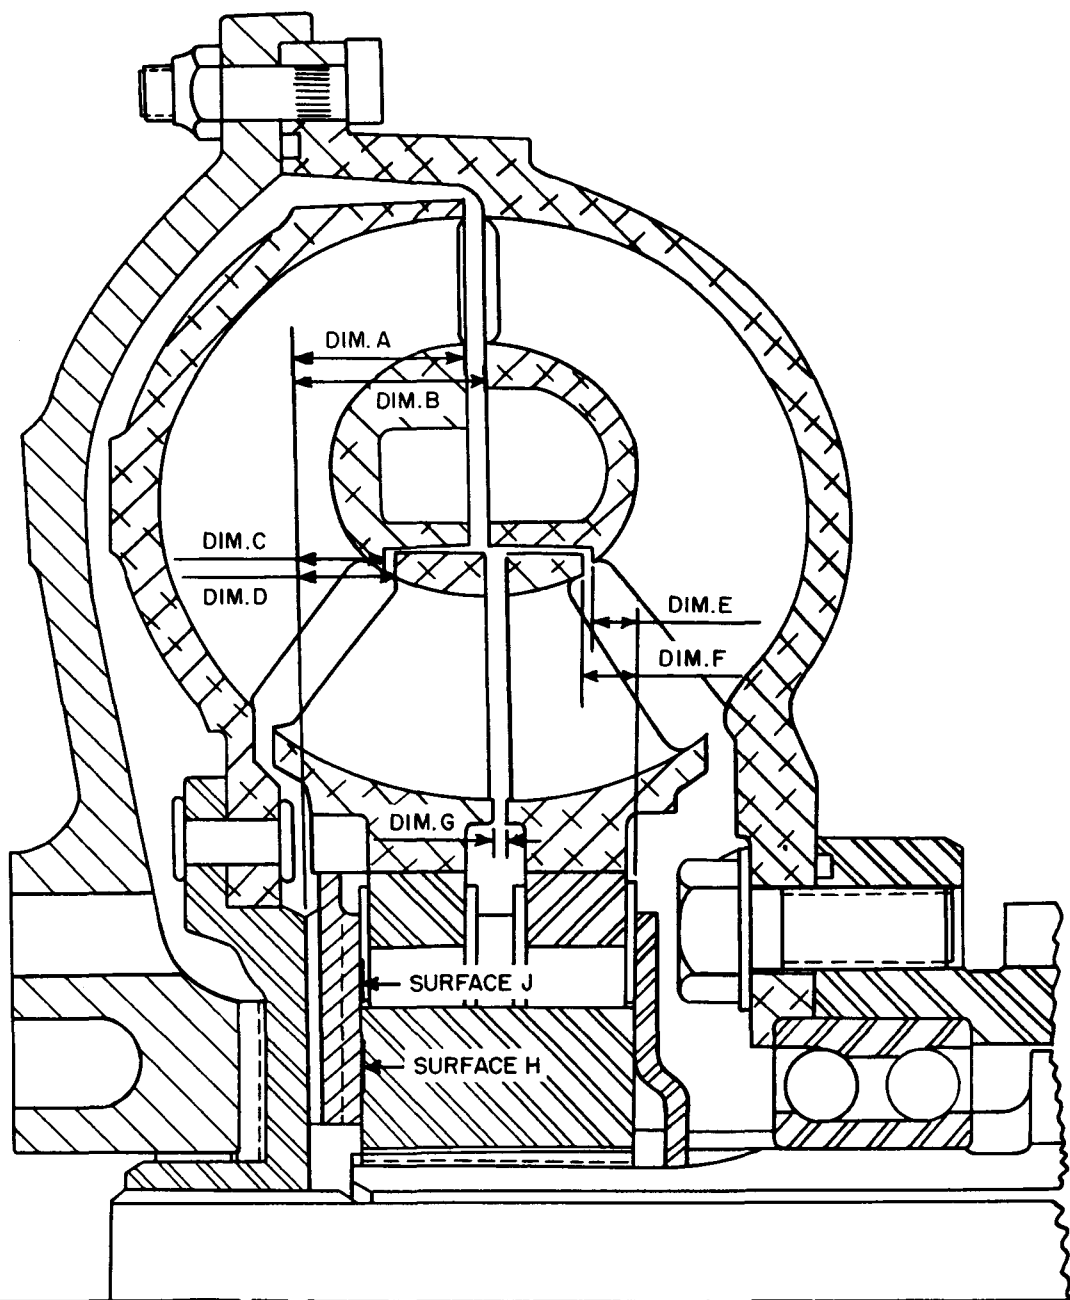

Fig VII-3. Model CRT-3330 Torqmatic converter cross section showing wear limits points of measurement.
(3) Install the other seven rollers and springs in the same manner. Refer to section VI, paragraph 4j (6) through (9) for assembly procedures. See figure VII-3.